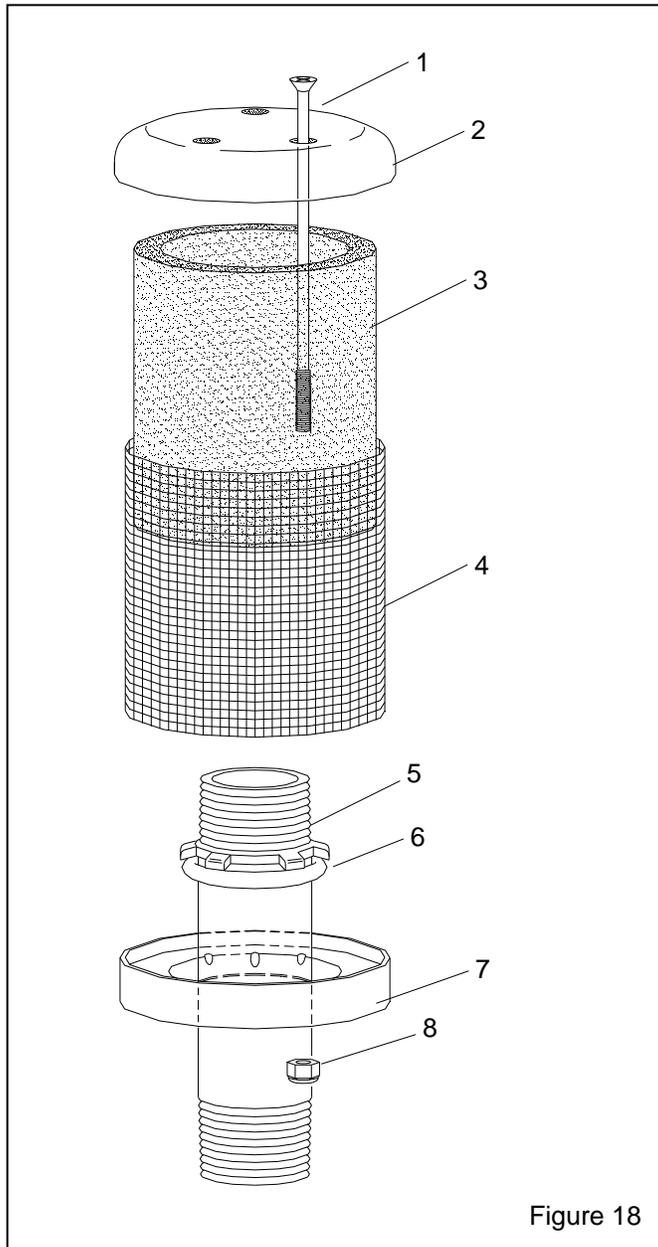

Figure 18
8.4 Exhaust Muffler, Figure 18